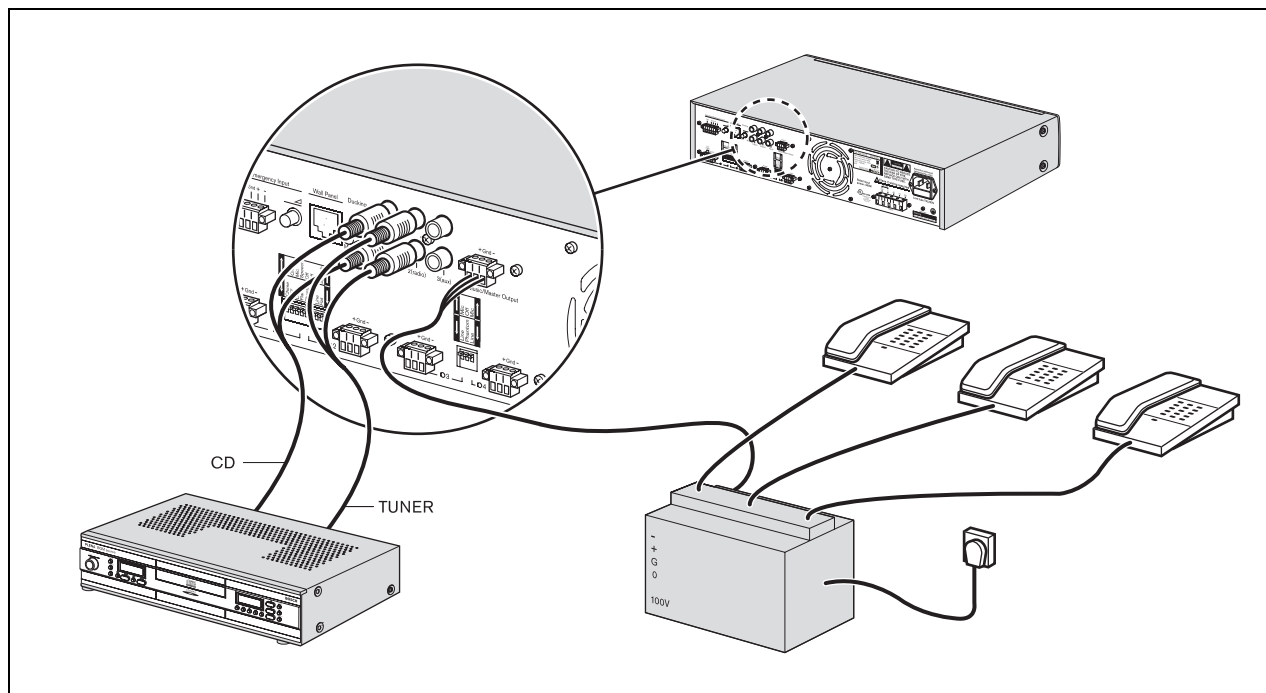

figure 4.6: Connecting music source inputs
Use the music master output connector (8) to provide a dedicated music out source for another device. For example, the music master output can be connected to a telephone coupler, so that callers can listen to music when they are put on hold (see figure 4.6).